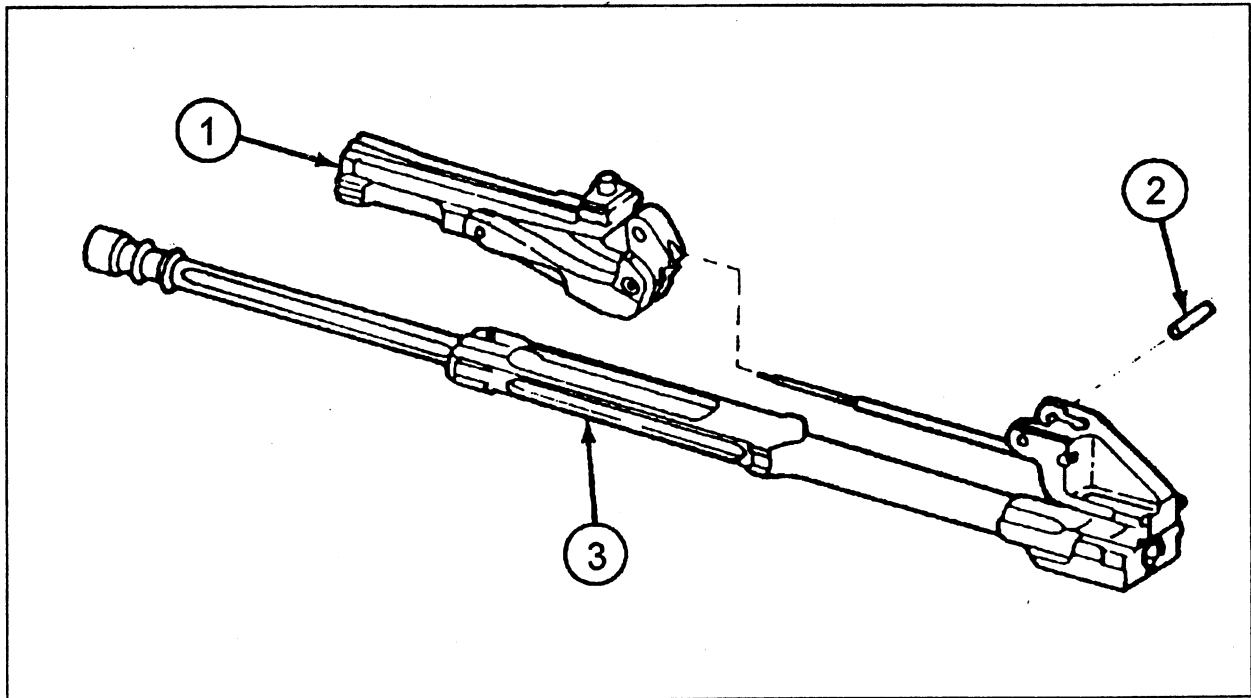

Fig 1-17. Detailed disassembly and assembly of the operating group.
(1) Detailed disassembly (see fig 1-17)
- (a) To separate the operating rod and bolt, remove the hinge spring pin (1) that holds them together.
- (b) Then, pull the bolt (2) forward until it is clear of the firing pin; this disengages the bolt from the operating rod (3).
(2) Detailed assembly (see fig 1-17)
- (a) To join the bolt and operating rod, hold the rod (3) in one hand.
- (b) Position the rear of the bolt (2) and slide it over the firing pin.
- (d) Push the hinge spring pin (1) through the holes to secure the two assemblies together. You can insert the pin from the left or the right.